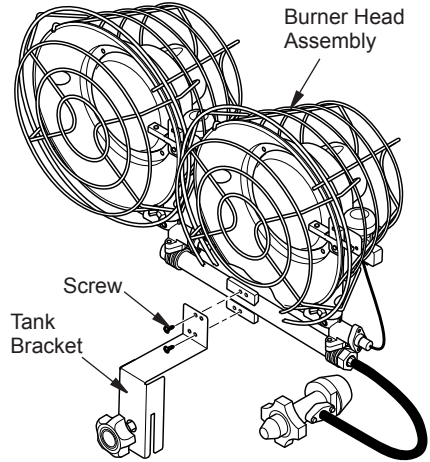

Figure 2 - Attaching Double Burner Assembly to Tank Bracket
3. **For 30,000 BTU Models** Using 2 screws from hardware package, attach tank bracket to the burner assembly as shown in Figure 2.